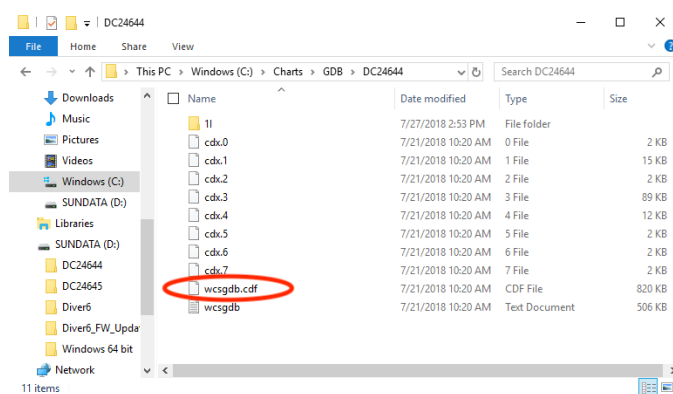

Figure 85: Chart Index File
6. Figure 85 is an example of the “.CDF” file. This file is the index file needed for S-63 charts to load in the Tile Server.
7. Click OK (Figure 85) when you are finished.